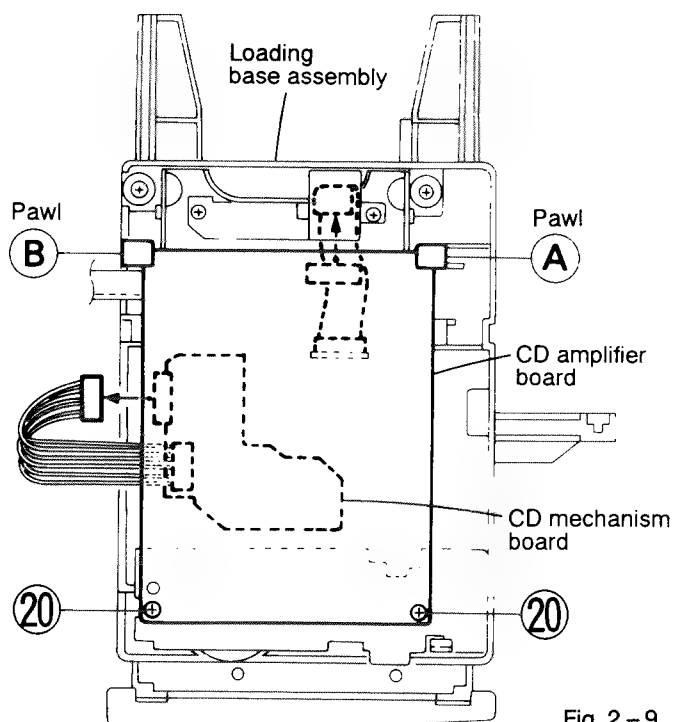

Fig. 2 – 9
3. Remove the two screws ⑳ retaining the CD amplifier board.
5. From the connector CN501 on the CD amplifier board, remove the card wire outgoing from the CD pickup unit. In this case, the card wire should be disconnected after removing the pawls of the connector CN501 in the arrow direction as shown in Fig. 2 – 9.
### ◆ Removing the CD tray (See Fig. 2 – 10, Fig. 2 – 11)